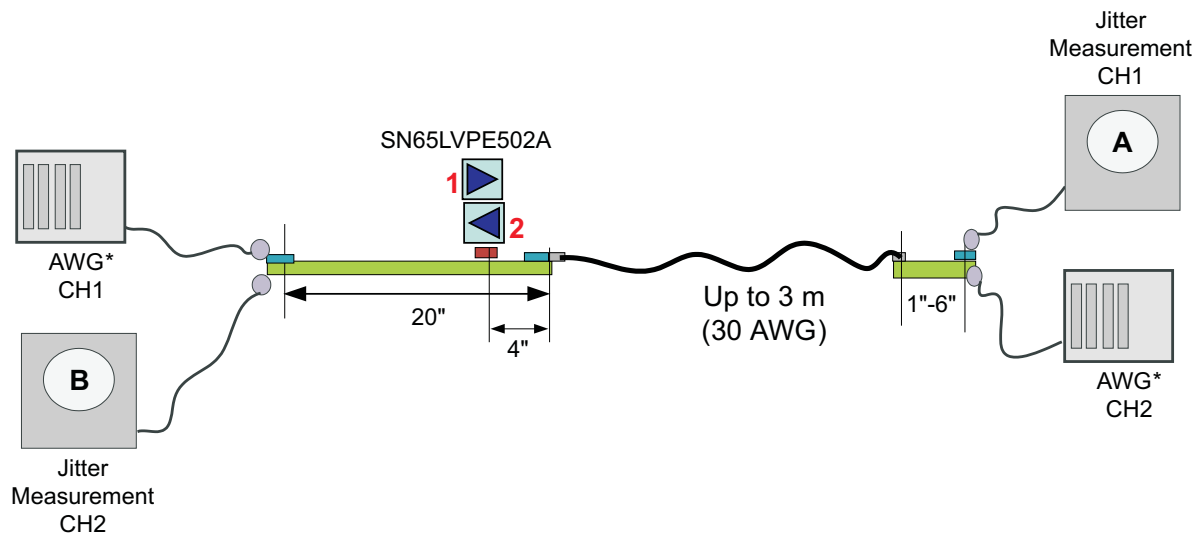

Figure 6. Jitter Measurement Setup
- (1) Includes RJ at 10^{-12} BER
- (2) Deterministic jitter measured with K28.5 pattern, Random jitter measured with K28.5 pattern at the ends of reference channel in Figure 6, VID=1000mVpp, 5Gbps, -3.5dB DE from source
- (3) UI = 200ps
- (4) Rj calculated as 14.069 times the RMS random jitter for 10^{-12} BER